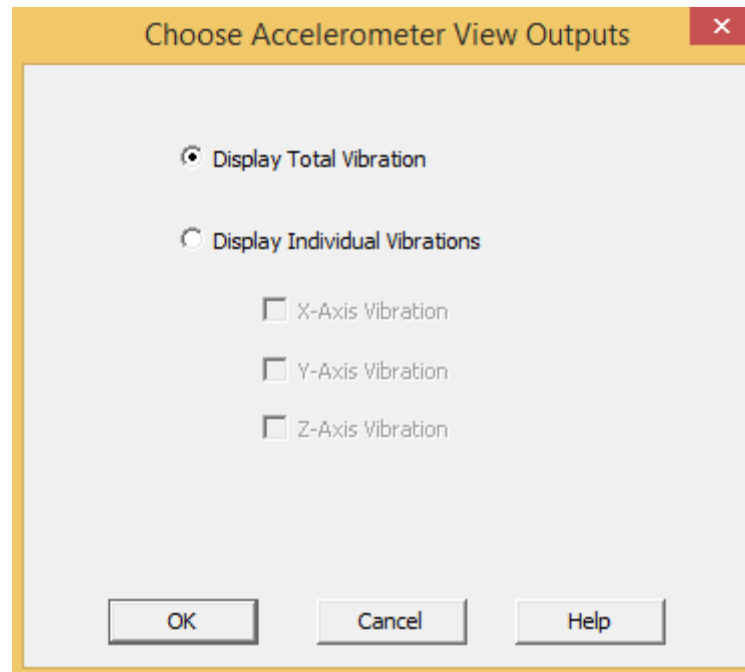

Figure 6.97: 'Choose Accelerometer View Options'.
5. A ‘Choose Accelerometer View Options’ window will open, see **Figure 6.97**.